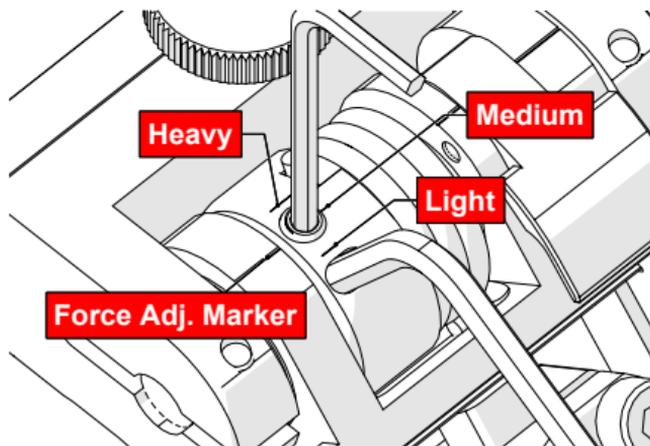

Fig. 104 - Choose desired tension
6. Gently apply pressure on the long leg of the 3 mm hex wrench until the force adjustment marker lines up with the desired spring tension. While keeping the markers in line, tighten the force adjustment screw (Fig. 104).